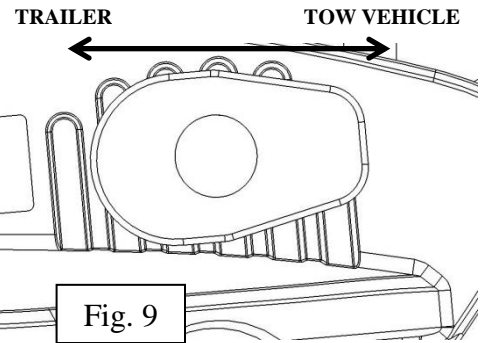
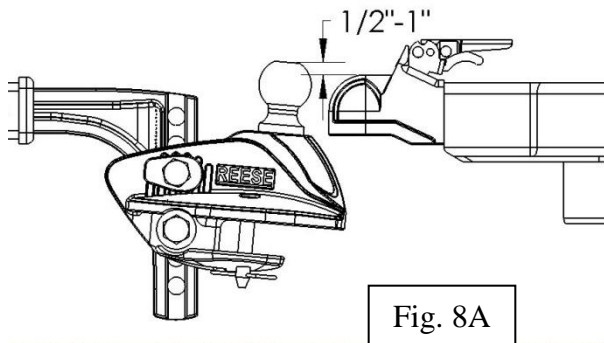

Fig. 9
Fig. 8A
13. Set the ball mount angle by aligning the toothed washer with the grooves on the ball mount as shown in Fig. 9 and Fig. 8a.